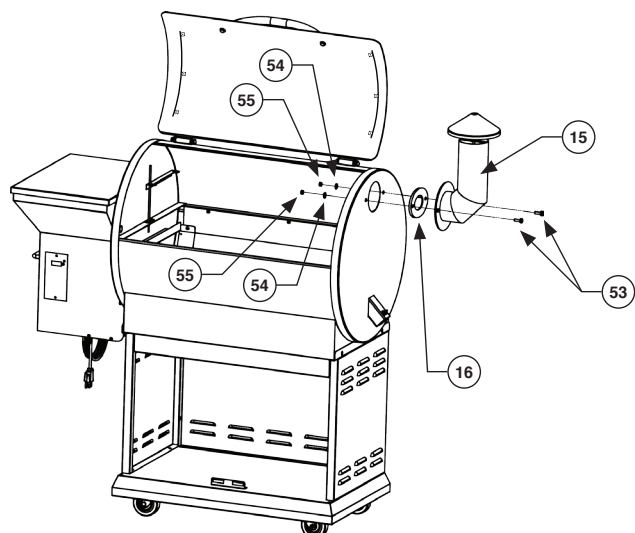

FIG 8
1. Align the holes in the Smoke Stack (15) with the holes in the Smoke Stack Gasket (16), which fits between right end of the Grill and the Smoke Stack Gasket (16). Insert the ¼-20\* ½ Hexagon Bolts through the holes in the Smoke Stack (15) and the Smoke Stack Gasket (16).
2. Place a (Ø18\*Ø6.5\*2.0mm) Washer (54) on each bolt and secure with ¼-20 Hexagon Nut (55). As shown in FIG 8.